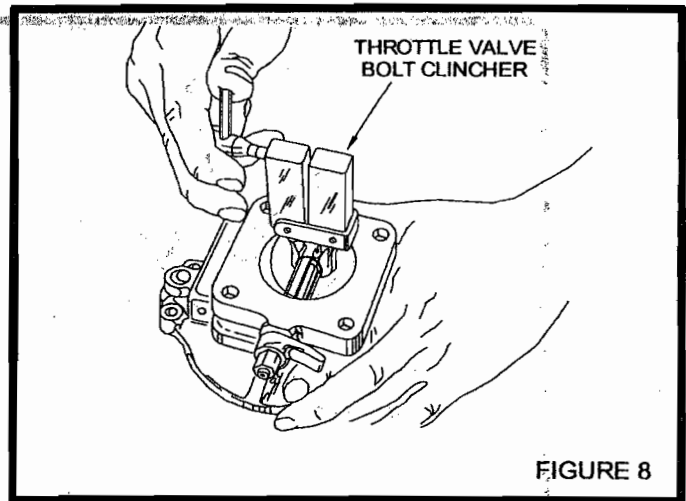

FIGURE 8
- 35) Safety the throttle valve screws in place with clinching tool M-109. See Figure 8. Carefully installed, the shaft will rotate freely from fully closed to wide open. Note: Certain carburetors do not use a wide open Valve and you may notice that the valve is limited up to 15° from the fully open position. This is normal and an important part of the full throttle requirements.